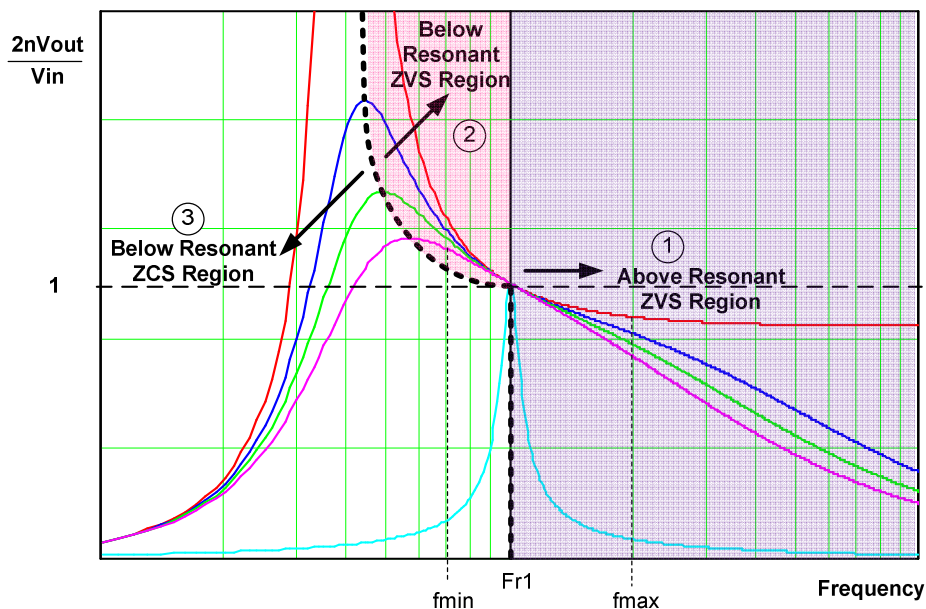

Figure 4: Typical frequency response of a LLC resonant converter
The typical AC transfer characteristics¹ for a LLC tank resonant converter are shown in **Figure 4**. The group of curve indicates the gain under different load conditions.
In the 2nd region, the switching frequency is higher than the lower resonant frequency but lower than F_{r1} . Region ② is in the pink shaded area in **Figure 4**. The lower resonant frequency varies with load, so the boundary of region ② and region ③ traces the peak of the family load vs. gain curves. In this complex region, the LLC resonant operation can be divided into two time intervals. In the first time interval, L_r resonates with C_r and L_m is clamped by output voltage. When the current in the resonant
To keep the converter working in soft switching mode, the operating point should always in the ZVS region as shown in **Figure 4**. The ZVS ZCS boundary line is defined by the phase angle of Z_{in} $\Phi(Z_{in}) = 0$ (the boundary condition between capacitive and inductive load), i.e. the imaginary part of Z_{in} is zero. With this condition we can calculate the maximum Q which allows the converter to stay in ZVS. The maximum Q happens at the minimum input voltage and the maximum load.